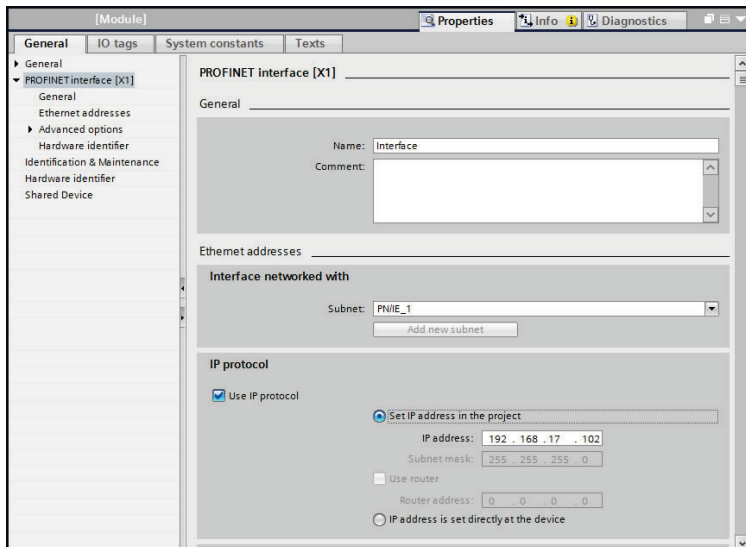

Figure 86: Assign Unique Compatible IP Address
1. Select the device and navigate to the **Properties** tab. Select the **PROFINET interface [X1]** node. Assign a unique and compatible **IP address** for this device as shown in Figure 86.